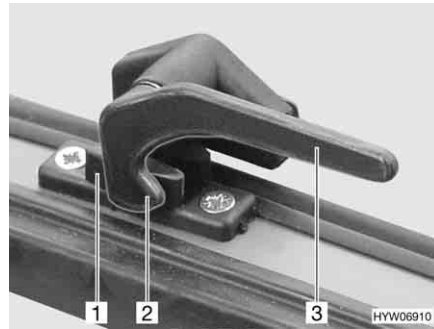

Fig. 50 Catch lever in "closed" position
- Turn the catch lever (Fig. 50,3) a quarter turn towards the centre of the window.
- Turn the catch lever (Fig. 50,3) a quarter turn towards the window frame. The locking catch (Fig. 50,2) is located on the inside of the window catch (Fig. 50,1).
- "Firmly closed" (Fig. 50).